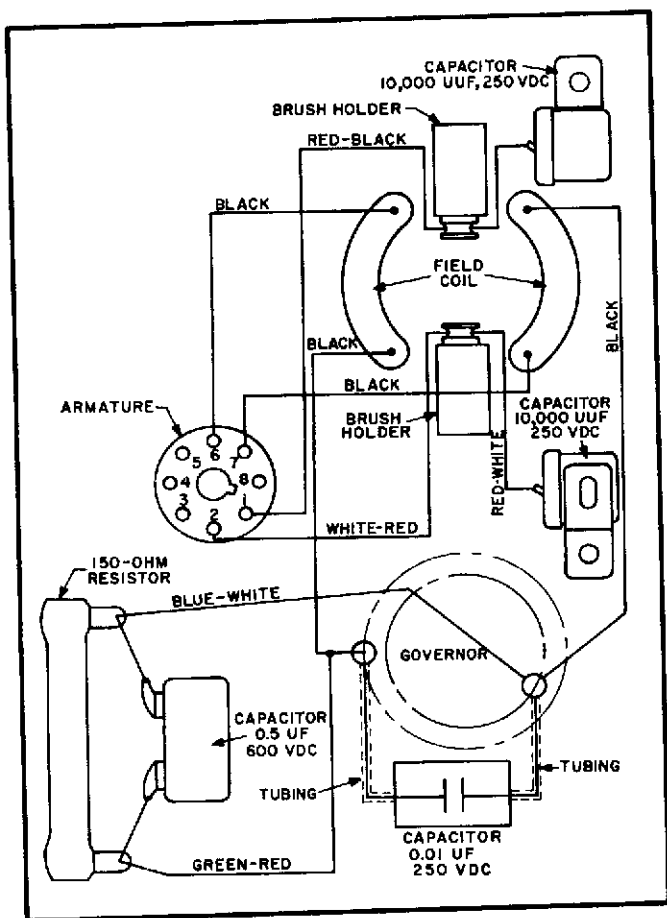

Figure 2-17. Drive Motor Wiring Diagram
- a. Assemble motor field (52) into housing (55). Lubricate bearings (47 and 48), paragraph 2-68, and assemble them to armature (49). Slip two loading springs (50) onto commutator end of armature shaft with prongs against the bearing (48). Insert this group into front housing (55) until the bearing seats in the bearing recess.
- b. Install rear housing (42) over ball bearing (47) on armature shaft and flush against front housing. Holes for screws (43) must line up with tapped holes in field coil retaining studs, and the tapped bosses on rear housing and front housing, for screws (19), must be aligned. Secure the rear housing. Install drive gear (46) to end of armature shaft with pin (45). Lubricate gear, paragraph 2-68.
- c. Remove flexible coupling from gear housing assembly (11), and install gear housing assembly to rear housing with screws (12 and 14) and lock washers (13 and 15). Note that binding head screw (12) is installed below flexible coupling to allow clearance for drive chain around sprocket. It may be necessary to rotate gear housing shaft until worm gears engage, thus permitting gear housing to seat fully. Armature shaft must turn freely with maximum end play of 0.008-inch.
- e. Install all electrical components, except the governor, making wiring connections as illustrated in figure 2-17.